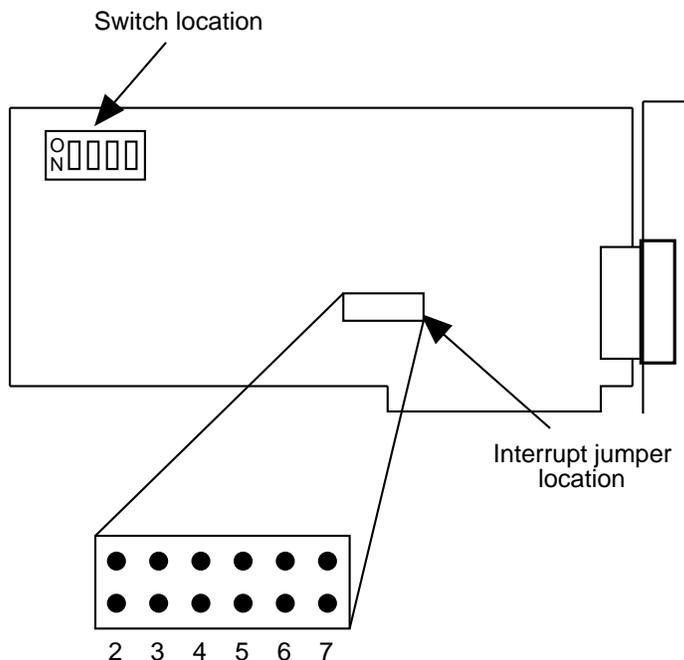

Figure 8-1. PC/XL Synchronous Card
The PC/XL communications card is shown below in Figure 8-1; the location of the I/O address switches and IRQ interrupt jumper are identified.
- Set the IRQ jumper — The default is 5. However, you must set the jumper according to the output from the configuration software program. Figure 8-1 illustrates the interrupt settings.